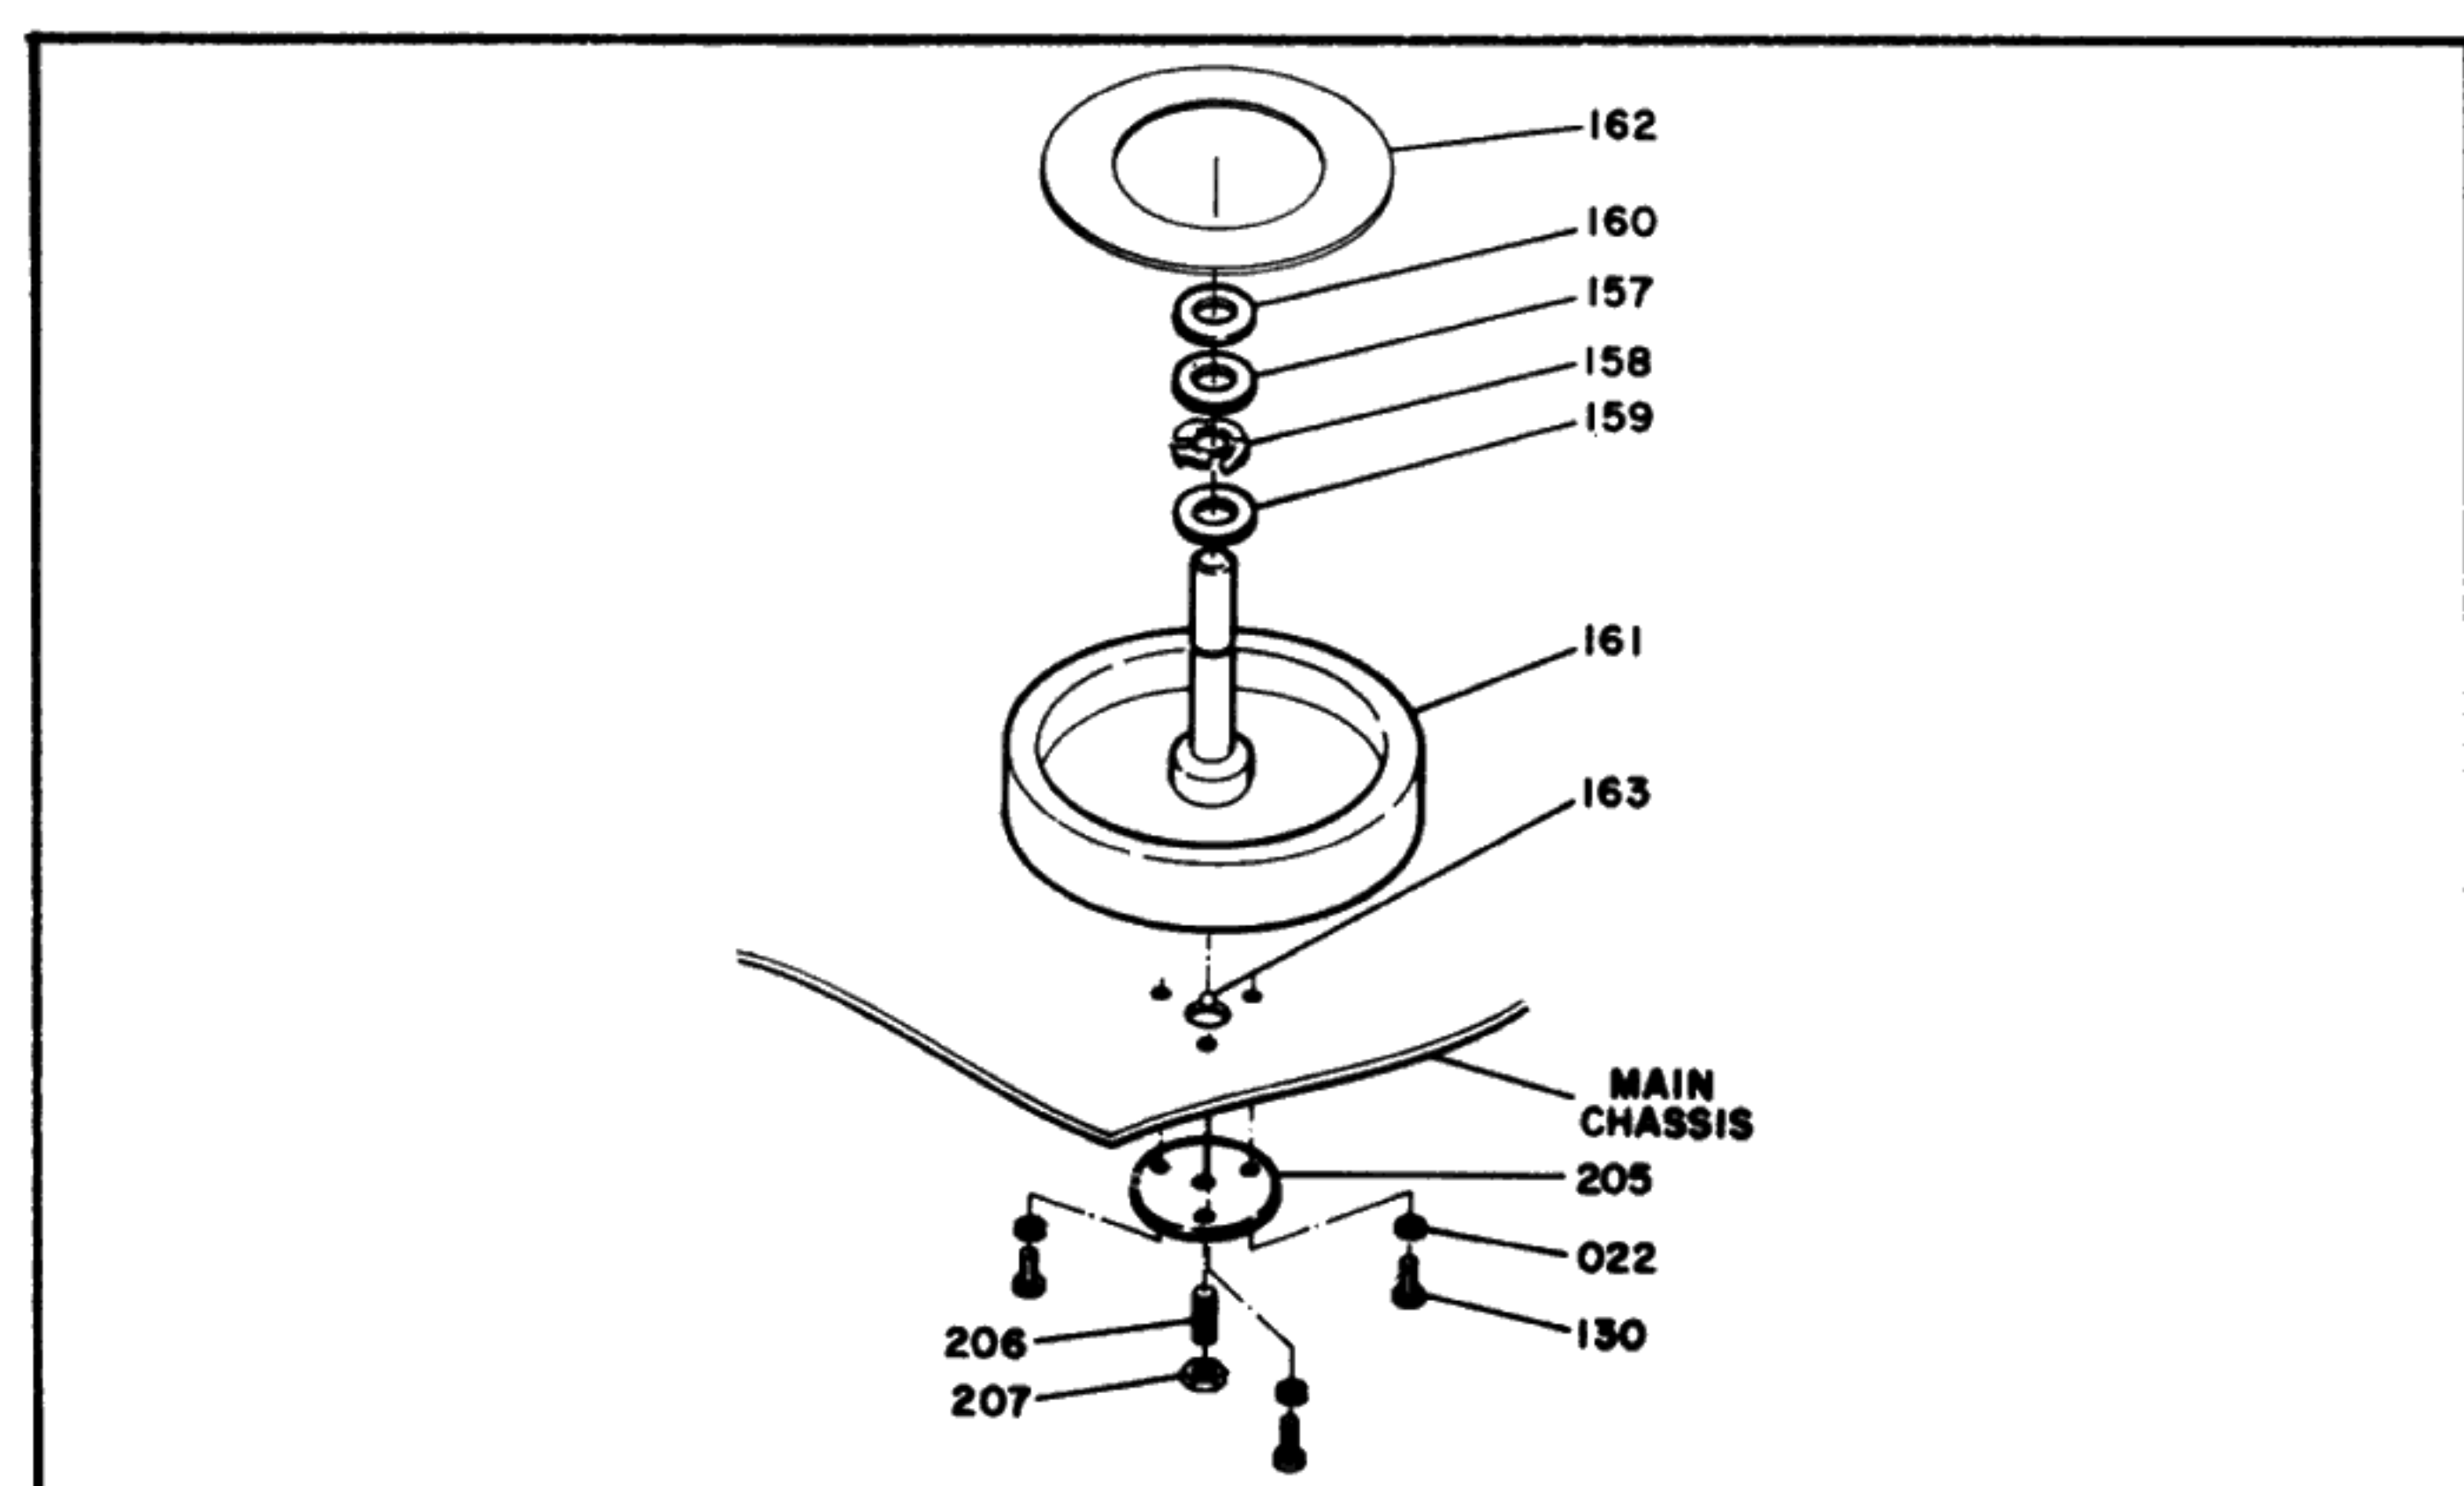

Figure 23. Capstan Parts Location
The capstan shaft is axially loaded with a special spring washer (158), its compression is adjustable by a screw (206) on the back of the baseplate. Loosen the lock nut (207) and turn the screw until the spring load can be felt on the capstan shaft by pulling it. The shaft should have no unloaded play, however, the spring must not be compressed solid with no play. The screw should be adjusted between these two extreme conditions. If it cannot be so adjusted, or if when properly adjusted, the flutter is noticeably higher in the vertical position than in the horizontal position, remove the flywheel assembly. Check the condition and arrangement of parts see Fig. 23 for proper position. Thrust surfaces should be lubricated with grease 087-665.